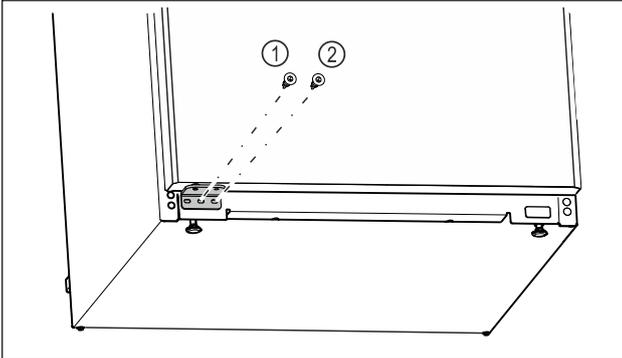

Fig. 18
- ▶ Tighten the middle screw of the swap bearing block Fig. 18 (1) using a Torx 20 screwdriver.
- ▶ Tighten the inner screw of the swap bearing block Fig. 18 (2) using a Torx 20 screwdriver.